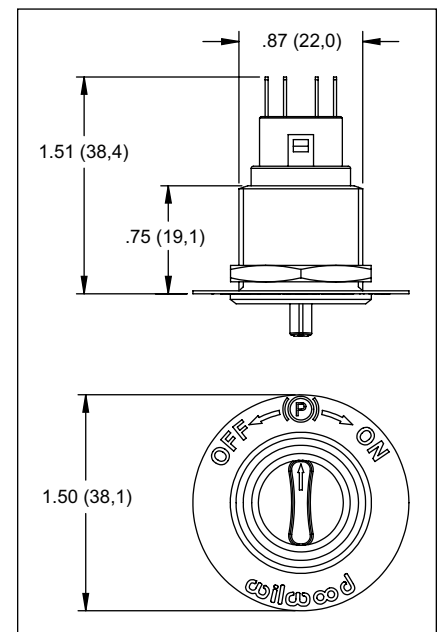

Figure 2. Control Switch
- **EPB CONTROL SWITCH** - Mount the EPB switch in an easily accessible location within arm's reach of the driver. The switch mounts to a panel with a .875" diameter hole. See Figure 2 for mounting dimensions.